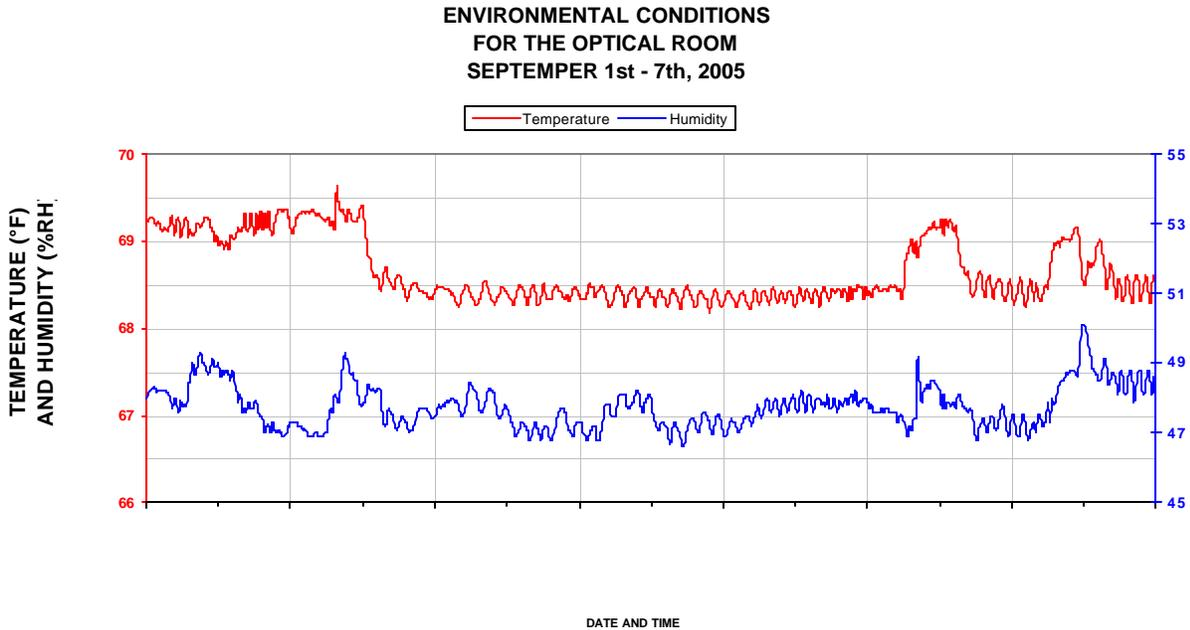

Figure 6. Example Graph of Environmental Data for a One-Week Time Period
- Step 4. Once the data is imported into Excel, charts and/or graphs of the environmental data can be presented in different forms and then printed out. Some working knowledge of Excel is required and is not provided in this article. Several examples of the graphs that can be generated with the environmental data are provided in Figures 6 and 7.